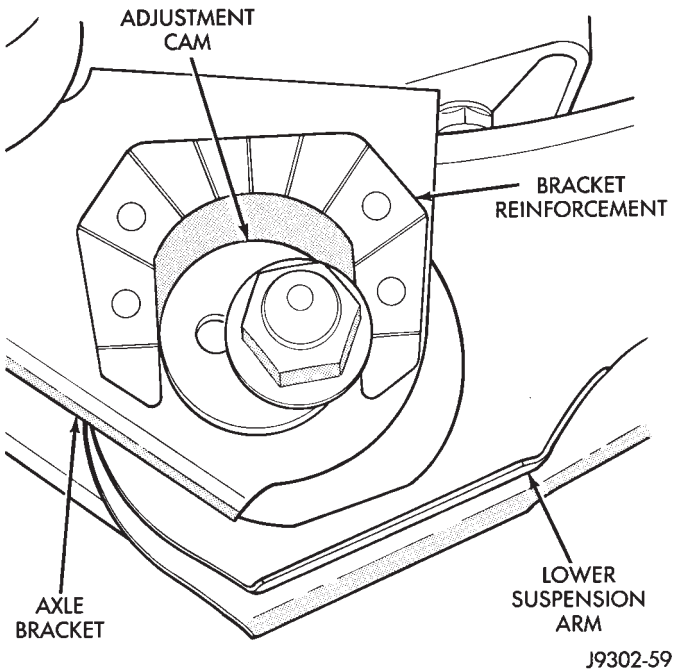

Fig. 3 Cam Adjuster
(1) Raise and support the vehicle.
(2) Paint or scribe alignment marks on the cam adjusters and suspension arm for installation reference (Fig. 3).